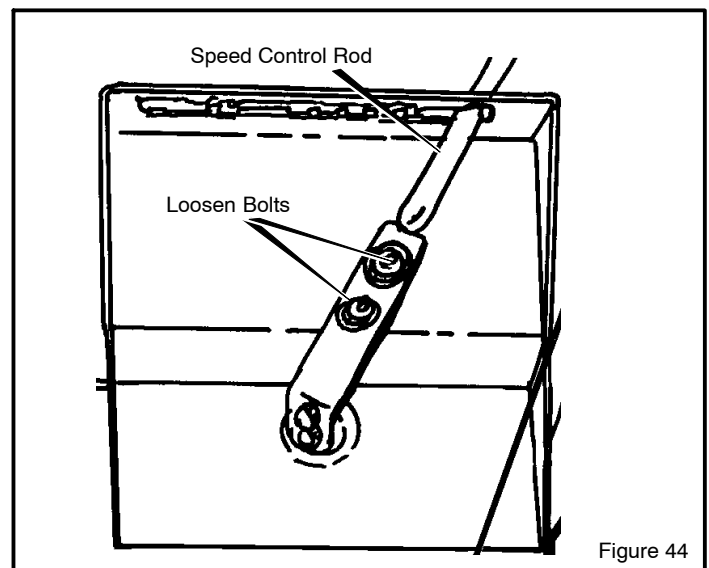

Figure 44
2. Loosen the **bolts** on the **speed control rod** (see Figure 44).
4. Tighten the **bolts** on the **speed control rod** (see Figure 44).